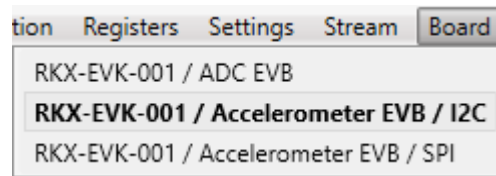
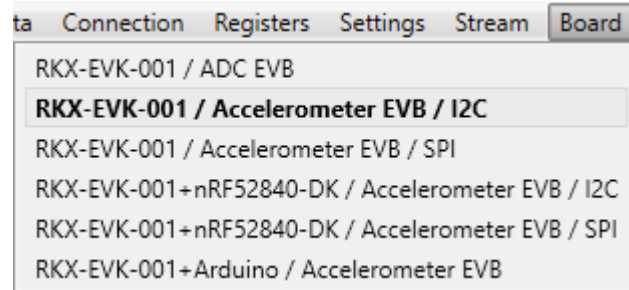

Figure 36. The Board Menu when "Show all board configurations" is not selected
Figure 37. The Board menu when "Show all board configurations" is selected
The board menu is used for selecting the EVK HW what is going to be used. For ADC evaluation, the available board configuration is limited to the "RKX-EVK-001 / BU79100G-LA-EVK-001 ADC" (Figure 37). For sensor evaluation, the ROHM EVK GUI SW supports multiple host adapters (Arduino UNO R3, CY8CKIT-059 Prototyping Kit, nRF52840-DK) – and each in turn supports one or two communication interface protocols (I2C, SPI). The correct board configuration must be selected based on the host adapter used and the communication interface protocol supported by the sensor that is being evaluated.
**NOTE:** The Board menu lists either all supported board configurations for all supported Host Adapters (Figure 37) or only the relevant ones (Figure 36) that are supported by the Host Adapter currently plugged in, e.g., CY8CKIT-059 / RKX-A3-EVK-001 / that comes with the ROHM EVK package by default. The selection is done via the View menu (4.1.8 View – Menu).